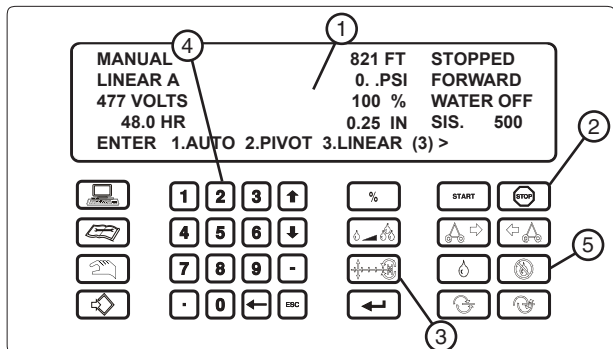

Figure 80-1 1. Control Panel Display. 2. Stop Key. 3. Pivot/Linear Key. 4. Numeric Key. 5. Water OFF Key.
1. At the control panel, press . See figure 80-1.
2. Press  to turn the Water OFF. See figure 80-1.
3. Press  and **2** to change the machine to the pivot mode. See figure 80-1.